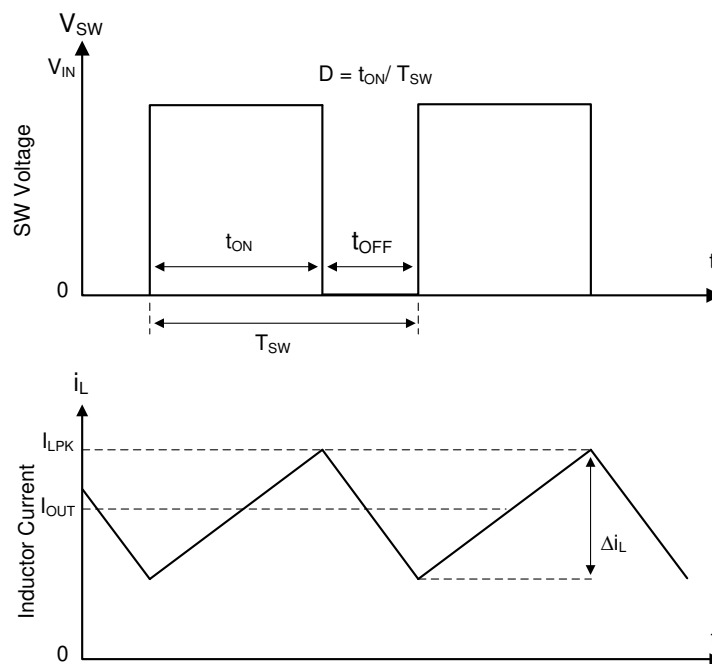

Figure 7-1. SW Node and Inductor Current Waveforms in Continuous Conduction Mode (CCM)
The following operating description of the LMR514x5-Q1 refers to Functional Block Diagram and to the waveforms in Figure 7-1. The LMR514x5-Q1 is a step-down synchronous buck converter with integrated high-side (HS) and low-side (LS) switches (synchronous rectifier). The LMR514x5-Q1 supplies a regulated output voltage by turning on the high-side and low-side NMOS switches with controlled duty cycle. During high-side switch ON time, the SW pin voltage swings up to approximately V_{IN} , and the inductor current, i_L , increases with linear slope $(V_{IN} - V_{OUT}) / L$. When the high-side switch is turned off by the control logic, the low-side switch is turned on after an anti-shoot-through dead time. Inductor current discharges through the low-side switch with a slope of $-V_{OUT} / L$. The control parameter of a buck converter is defined as Duty Cycle $D = t_{ON} / T_{SW}$, where t_{ON} is the high-side switch ON time and T_{SW} is the switching period. The converter control loop maintains a constant output voltage by adjusting the duty cycle D . In an ideal buck converter, where losses are ignored, D is proportional to the output voltage and inversely proportional to the input voltage: $D = V_{OUT} / V_{IN}$.